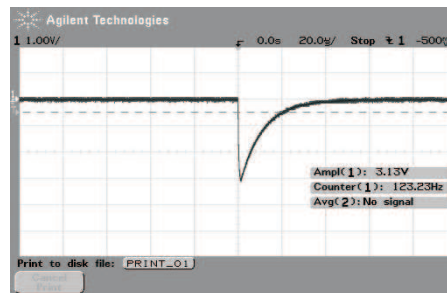

Figure 3: Waveform from PQC biased 3 V above the breakdown voltage and placed in the dark.
- Set the oscilloscope to 1 V per division on the vertical axis and to 20 μs per division on the horizontal axis. Set the trigger level of the oscilloscope to -500 mV (with the baseline of the waveform at 0). Set up the oscilloscope so that it displays the frequency of the pulses that cross the trigger. Record the frequency, this is the dark count rate of the detector at -30 V. Notice that the amplitude of the pulse is ≈ 3 V corresponding to the excess bias, the dead time is ≈ 40 μs and the dark count rate is ≈ 120 cps (or 120 Hz). Fig. 3 shows what should typically be observed.